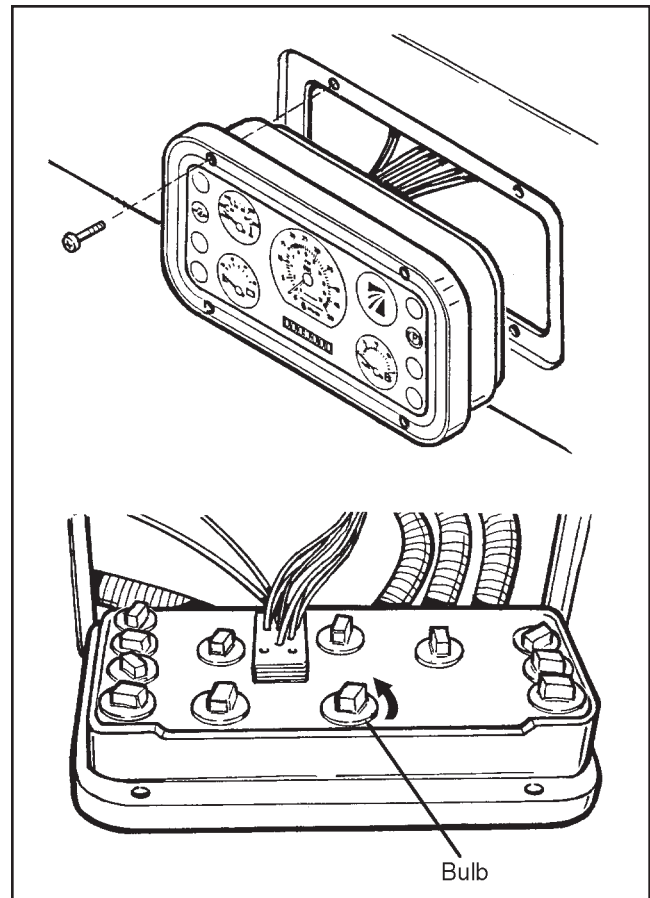

Figure 2D-1. Instrument Panel and Bulb Replacement
2. A brake fluid indicator light on the control panel (see Figure 2D-1) will come on and stay on if the brake fluid level is low. The fluid level must be maintained between the minimum and maximum markings on the gauge attached to the brake fluid reservoir. Use DOT 3 Type brake fluid.
REPAIR (See Figure 2D-1)